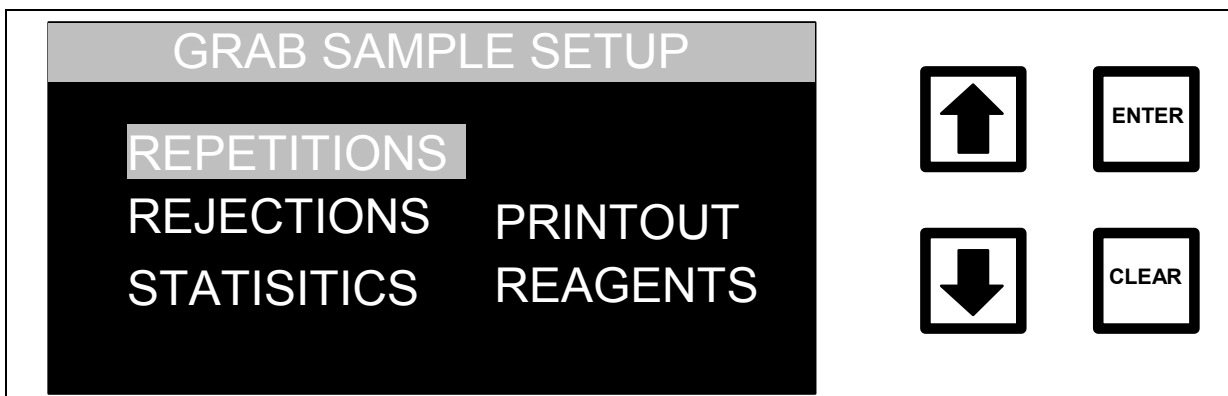

FIGURE 6-22: GRAB SAMPLE SETUP Menu
6. Locate the 1/16" OD Teflon tubing connected to the INLET and OUTLET bulkhead fittings (see Figure 6-22).